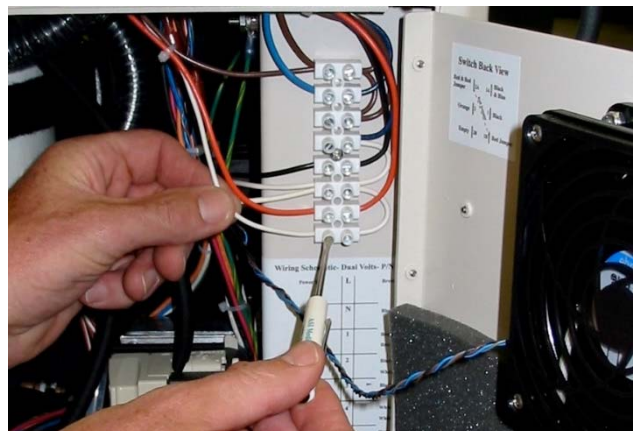

Fig. 2
5. Locate black and white wires coming from the compressor and follow them to the terminal block. Using a small flat head screwdriver, loosen screw in location "3" for removing black wire and location "4" for removing white wire. (Fig. 2)